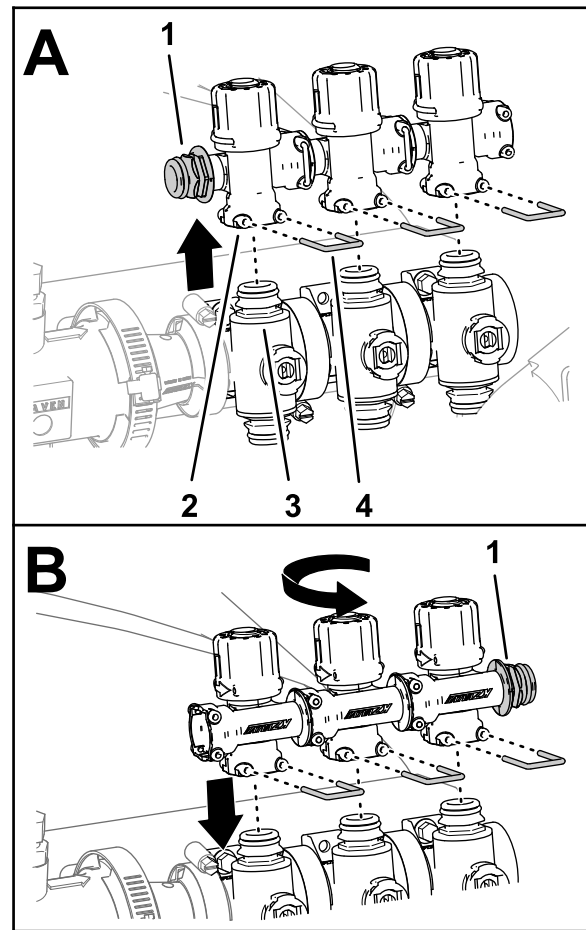

**Figure 65**
3. Remove the retainer that secures the cap to the quick disconnect fitting of the bypass valve, and remove the cap (Figure 65).